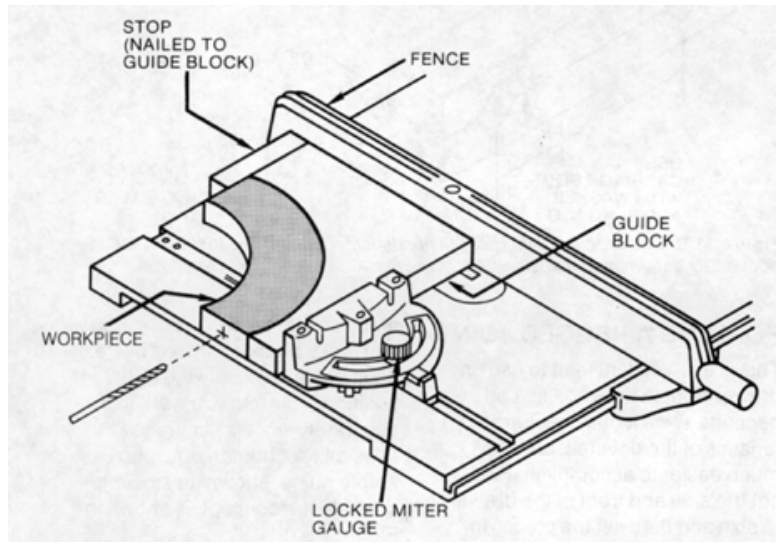

Figure 11-15. An example of a guide used for boring odd-shaped pieces.
- **Jig Boring.** In this application, your workpiece is held in position by a special jig or fixture while you drill your hole. (Fig 11-15)